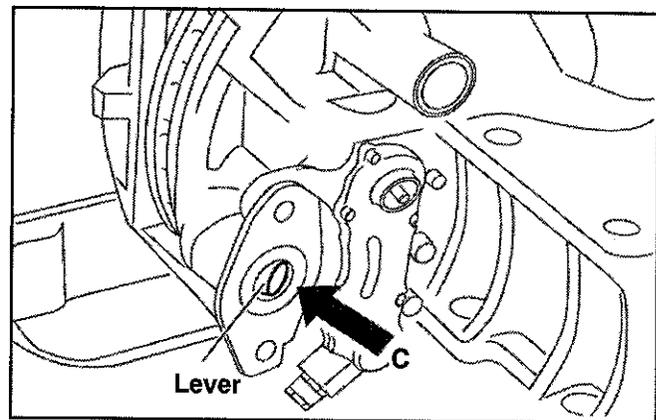

FIGURE 4 - BRAKE CHAMBER MOUNTING FLANGE
2. Remove the service brake chamber from its mounting flange. See Figure 4.
Before installing the new brake chamber, the mounting flange (see Figure 4, arrow C) must be cleaned and inspected. The spherical cup in the lever must be greased with white grease (Part No. II14525 or II32868).
Before installing the new spring brake chamber, the mounting flange (see Figure 4, arrow C) must be cleaned and inspected. The spherical cup in the lever must be greased with white grease (Part No. II14525 or II32868).